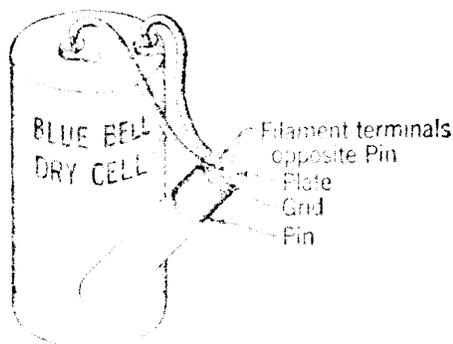

Fig. 1.
3.06 If the tube does not glow when the receiver or hand set is off the hook or mounting, the amplifier "On" and the relay operated as covered in paragraph 3.02, remove it from the socket and test the filament circuit of the tube, using one Blue Bell dry cell as shown in Fig. 1.